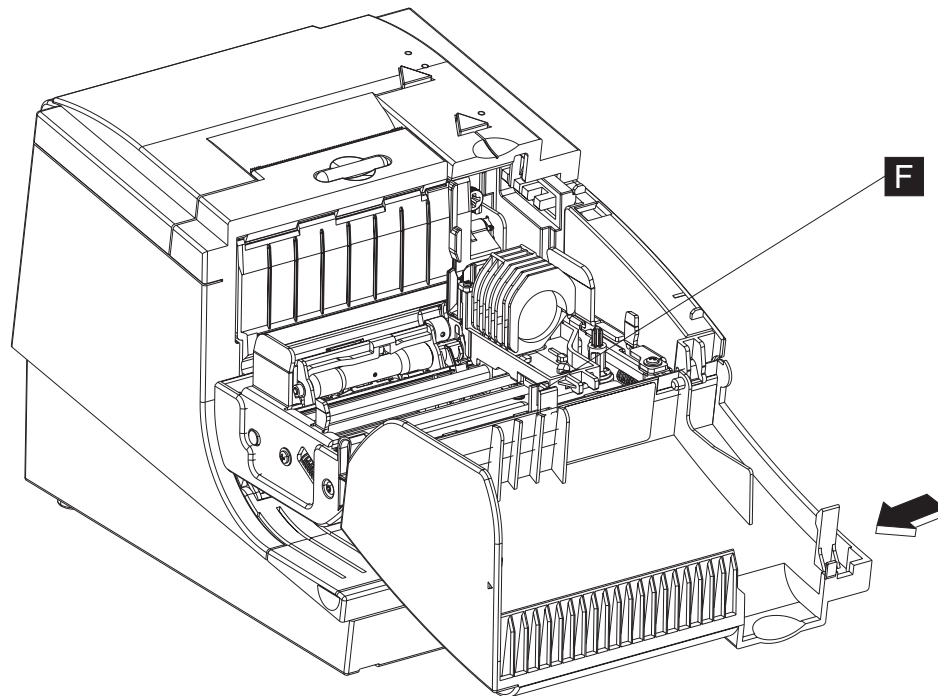

Figure 30. Removing the ribbon door
2. Slightly push the middle tab (**F**) towards the back of the printer and slide the door to the left to remove. (See Figure 30).
1. Open the ribbon door (see Figure 30),
2. Slide the door to the right (see Figure 30), aligning the post with the slots.